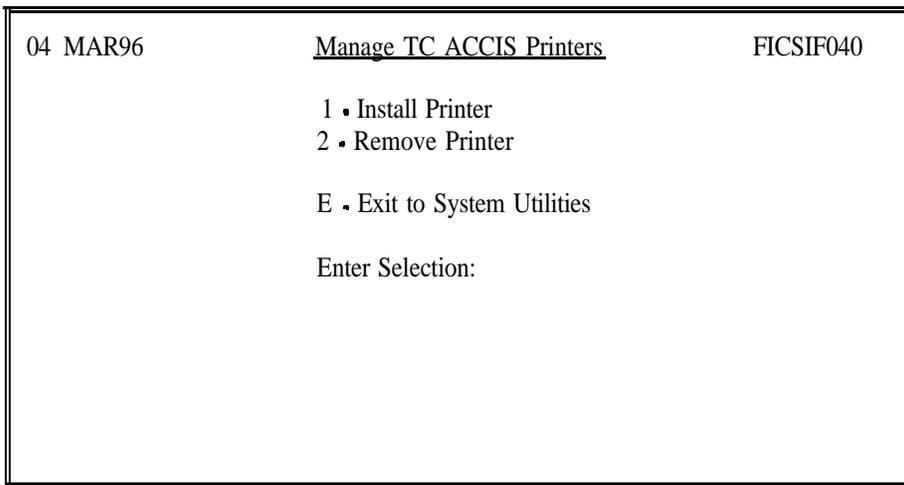

Figure 4-6. Manage TC ACCIS Printers Menu
4. At the **Manage TC ACCIS Printers** menu (see Figure 4-6), select **Install Printer**. The system will display the **Install Printer** screen (see Figure 4-7).